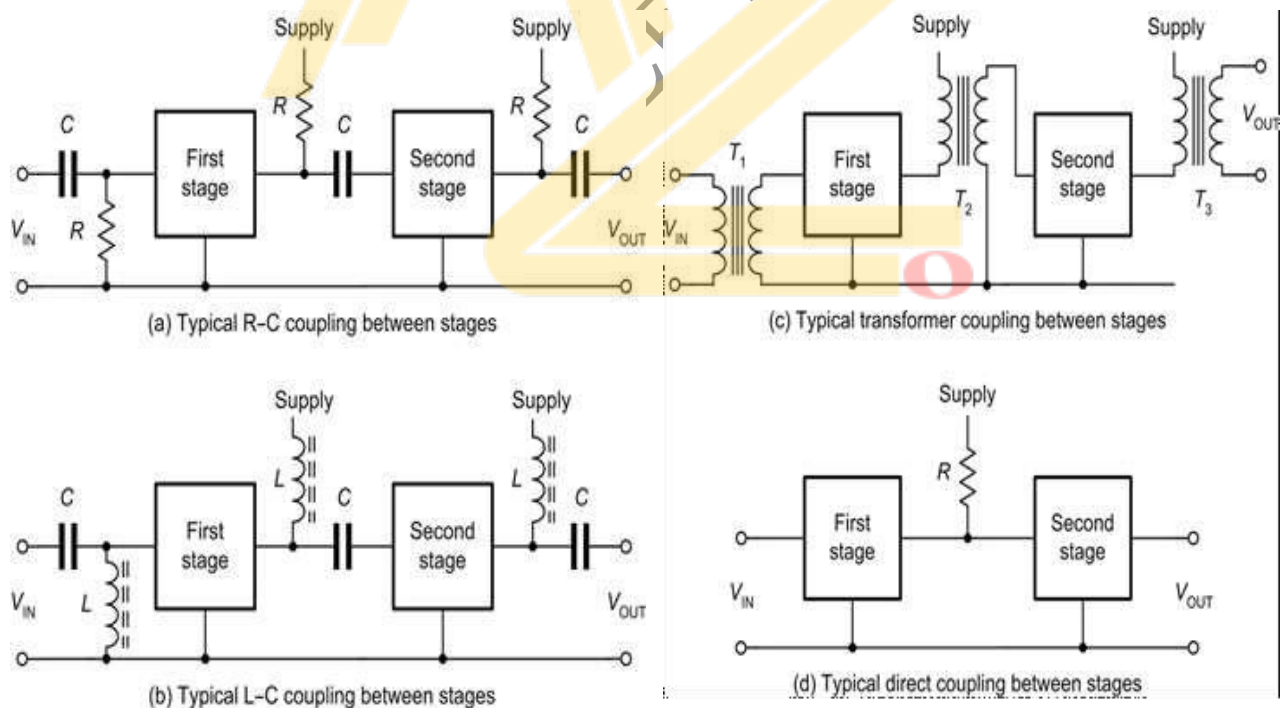

Figure 1.25 Different methods used for inter-stage coupling
- Signals can be coupled between the individual stages of a multi-stage amplifier using one of a number of different methods shown in Fig. 1.25.